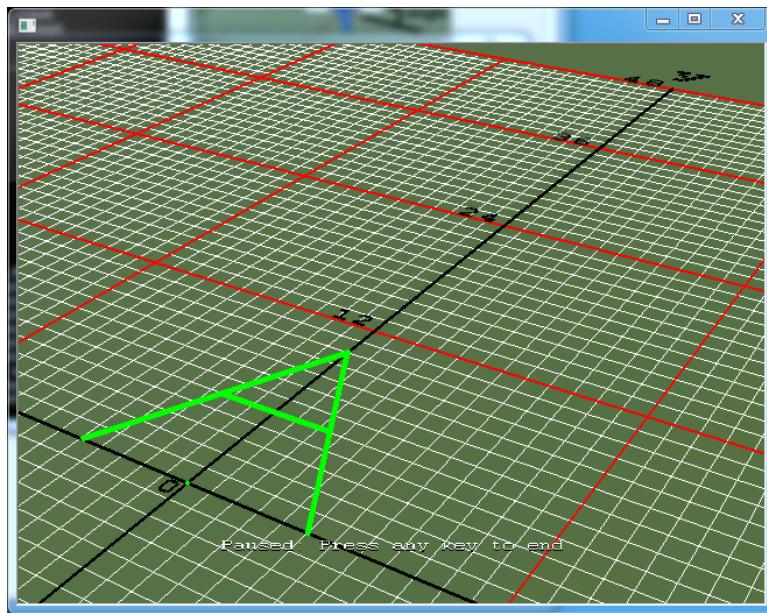

Figure 10.17: Moving a virtual Linkbot-I to trace a letter 'A'.
1. Write a program **traceon3.ch** to trace the letter 'A' in RoboSim as shown in Figure 10.17. The horizontal line for the letter 'A' can be drawn from the point  $(-2.5, 5)$  to the point  $(2.5, 5)$ .